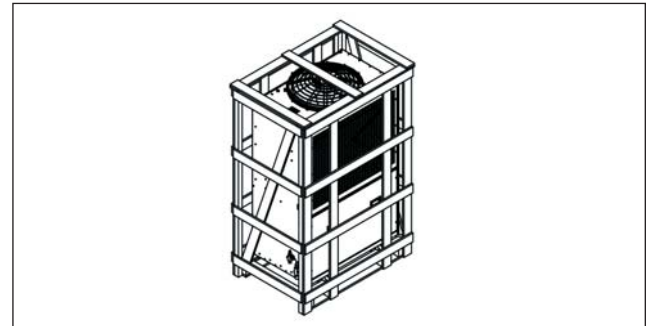

Fig. 9.2
1. The unit must be delivered to the installation site in its original packaging. Make sure that the package is not damaged (Fig. 9.2).